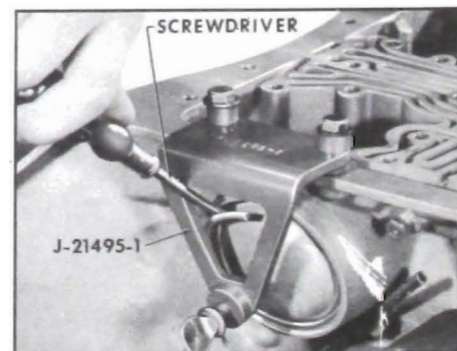

Figure 5-313
4. Compress low servo cover with J-21495-1 and install retaining snap ring. See Figure 5-313.